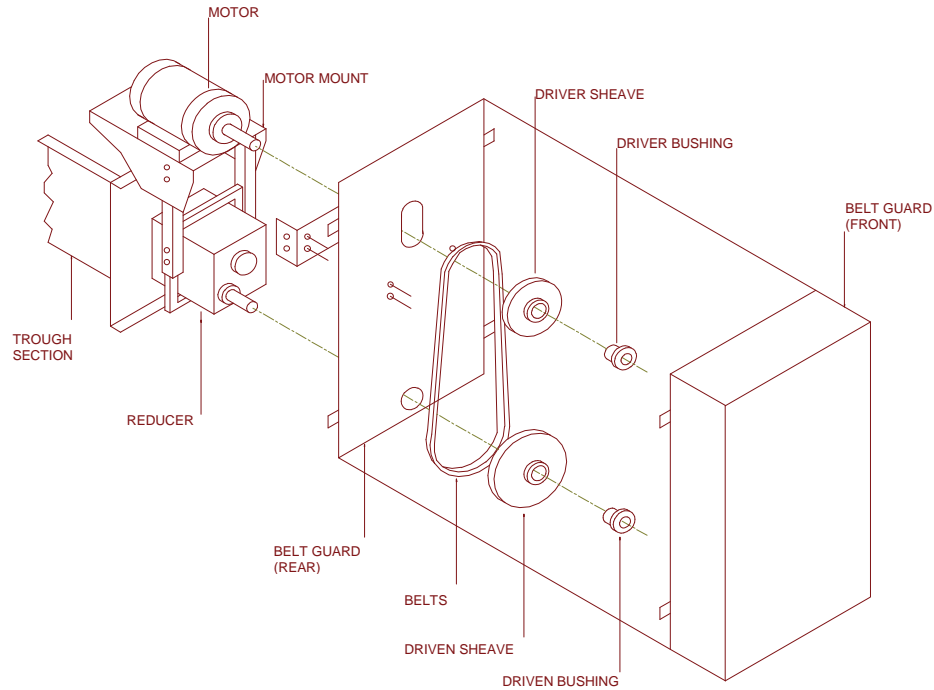

FIGURE 5
19. Install drive at proper location in accordance with separate instructions provided and as shown in Figure 5. After electrical connections have been made and before handling any material, check screw rotation for proper direction of travel. Incorrect screw rotation can result in serious damage to conveyor and to related feeding, conveying, and drive equipment. If rotation is incorrect, have electrician reverse motor rotation. When looking at the conveyor from the inlet towards the discharge, a right hand screw should rotate counter clockwise. A left hand screw section should rotate clockwise when viewed from the same perspective.